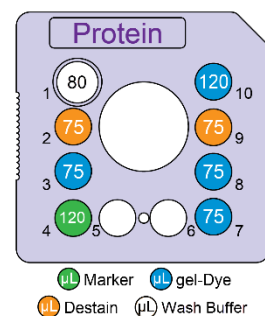
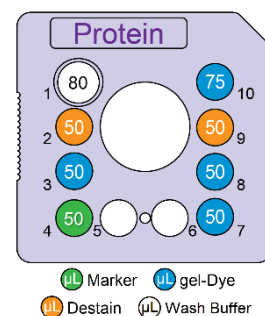

Figure 1. High-Throughput (HT)
Figure 2. Low-Throughput (LT)
4. Using a reverse pipetting technique, add 75 μ L (HT) or 50 μ L (LT) of Destain Solution to chip wells 2 and 9 as shown in Figure 1 (HT) or Figure 2 (LT).
5. Using a reverse pipetting technique, add Gel-Dye solution from spin filter tube to chip wells 3, 7, 8, and 10 with volumes shown in Figure 1 (HT) or Figure 2 (LT).
6. Using a reverse pipetting technique, add 120 μ L (HT) or 50 μ L (LT) of Protein Express Lower Marker (green cap ●) to chip well 4 with volumes shown in Figure 1 (HT) or Figure 2 (LT).